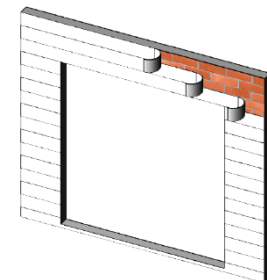

Figure 39:
4. Weather resistant building paper should be applied in a weatherboard fashion to complete the installation (Figure 39).